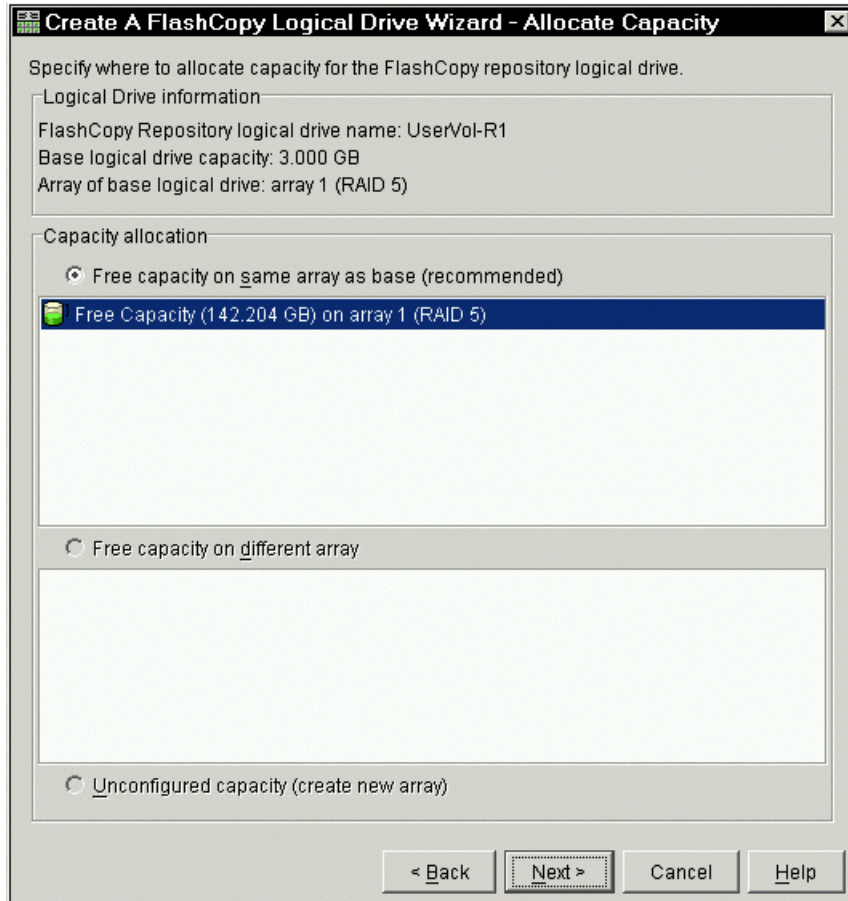
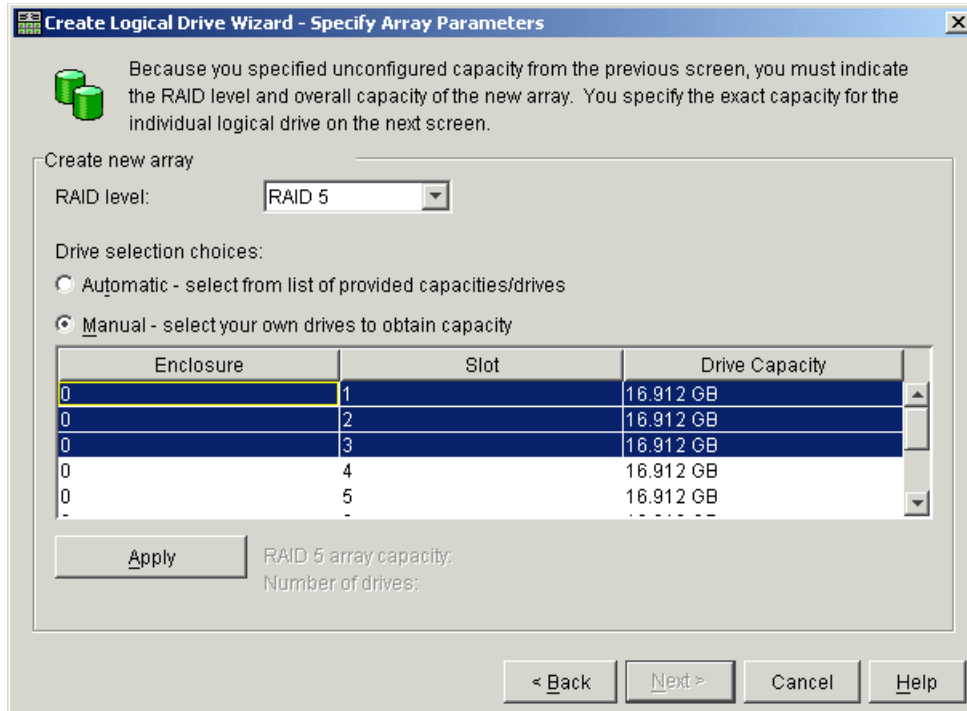

Figure 5-11 Allocate Capacity window
Figure 5-14 Specify Array Parameters window
- c. If you want to use the Advanced path, select **Advanced** and click **Next**. The Allocate Capacity window (Figure 5-11) appears on which you can choose:
On the Allocate Capacity window (Figure 5-11 on page 154), you may select **Unconfigured Capacity** and click **Next**. Then on the Specify Array Parameters window (Figure 5-14), you specify a new array where the repository resides. You also specify the RAID level of the array that meets the FlashCopy repository logical drive data storage and protection requirements.